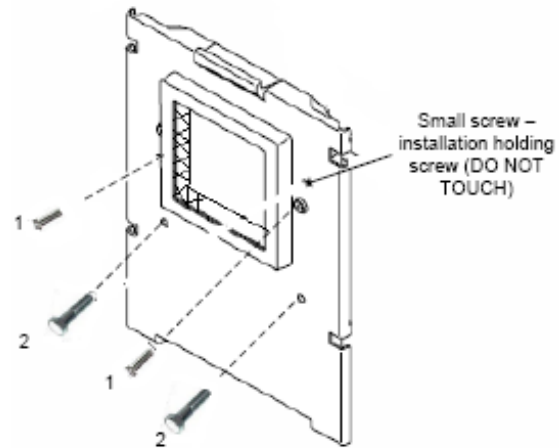

Fig. 11.a Burner Door
- Open burner bulkhead by removing the two hexagon bolts below burner (see Fig. 11.a).